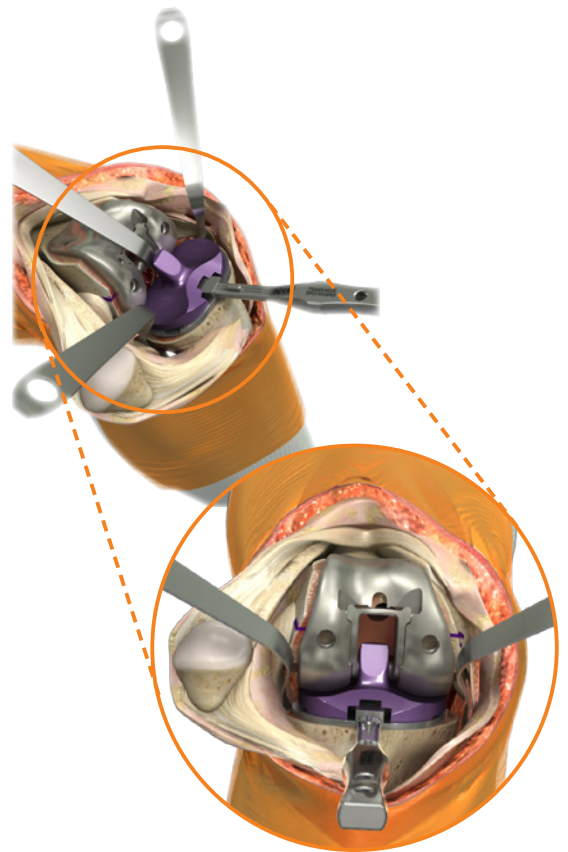

Figure 22
- Place the appropriate size and desired thickness articular insert trial onto the tibial trial. For Insert thicknesses greater than 9mm select the appropriate shim. Attach the quick connect handle to the tibial trial and insert the assembly into the knee (Figure 22).